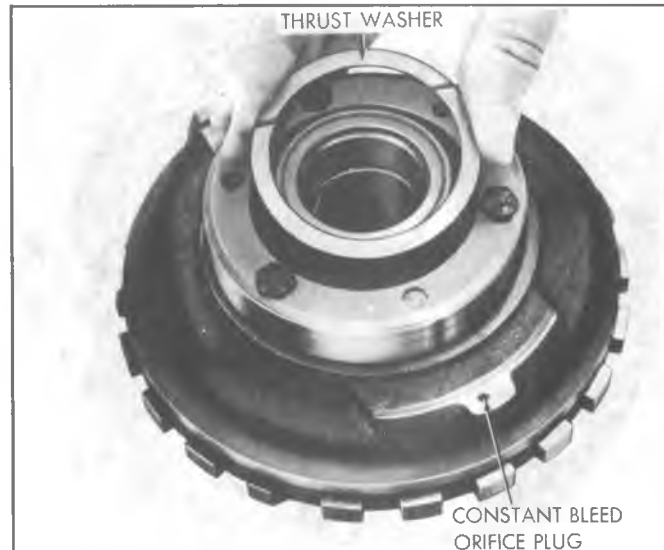

Figure 400-47 Removing Center Support to Reaction Carrier Thrust Washer
14. Remove center support to reaction carrier thrust washer, **Figure 400-47**.